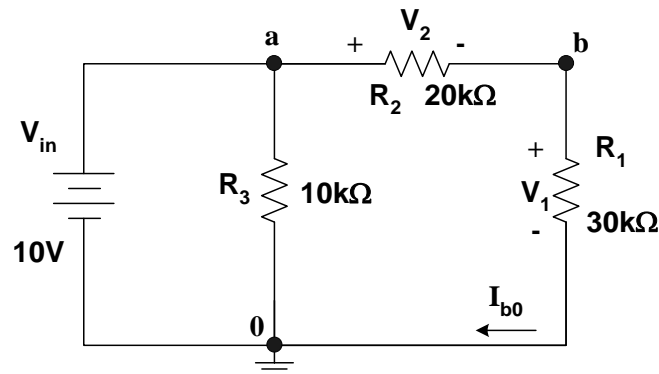

Figure 18
1. Build the circuit of Fig. 18 in *Multisim Electronics Workbench*.